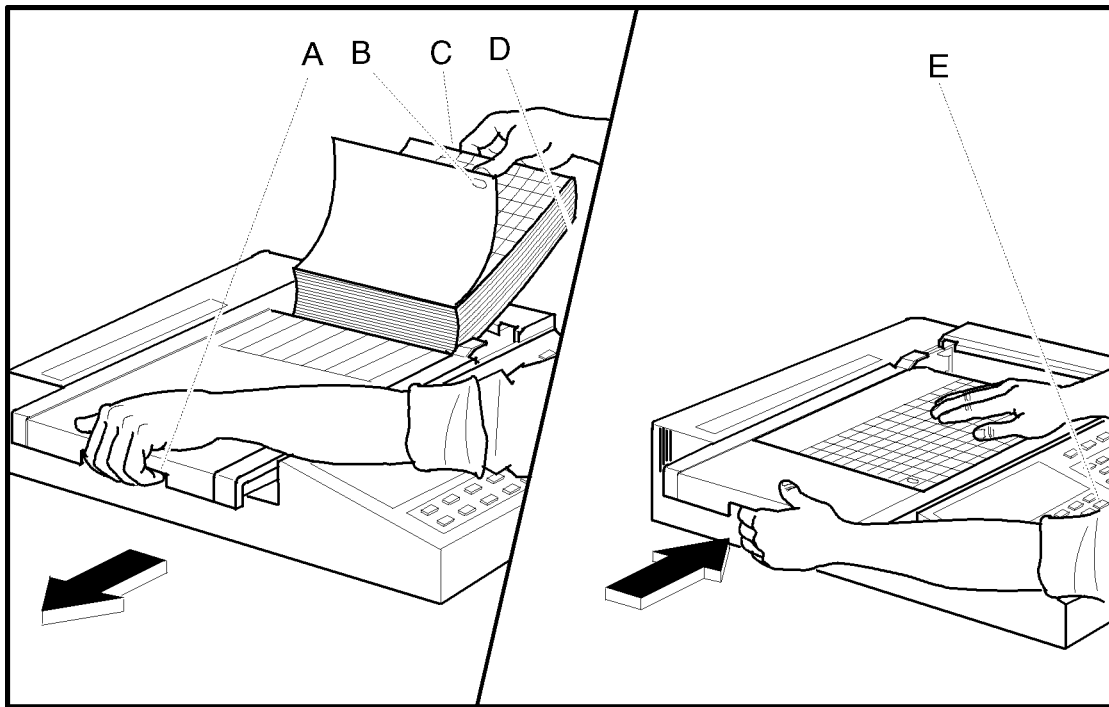

Figure 7-2: Loading the Paper
4. Pull a sheet halfway out and over the paper door. Make sure that the paper lays on the black roller evenly within the channel of the paper door. See Figure 7-2.